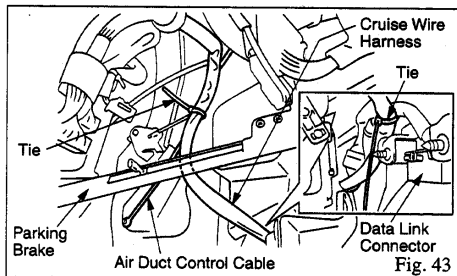

Fig. 43
- (20) Route the wire harness as shown in the figure. (2 tie straps) (Fig. 43)